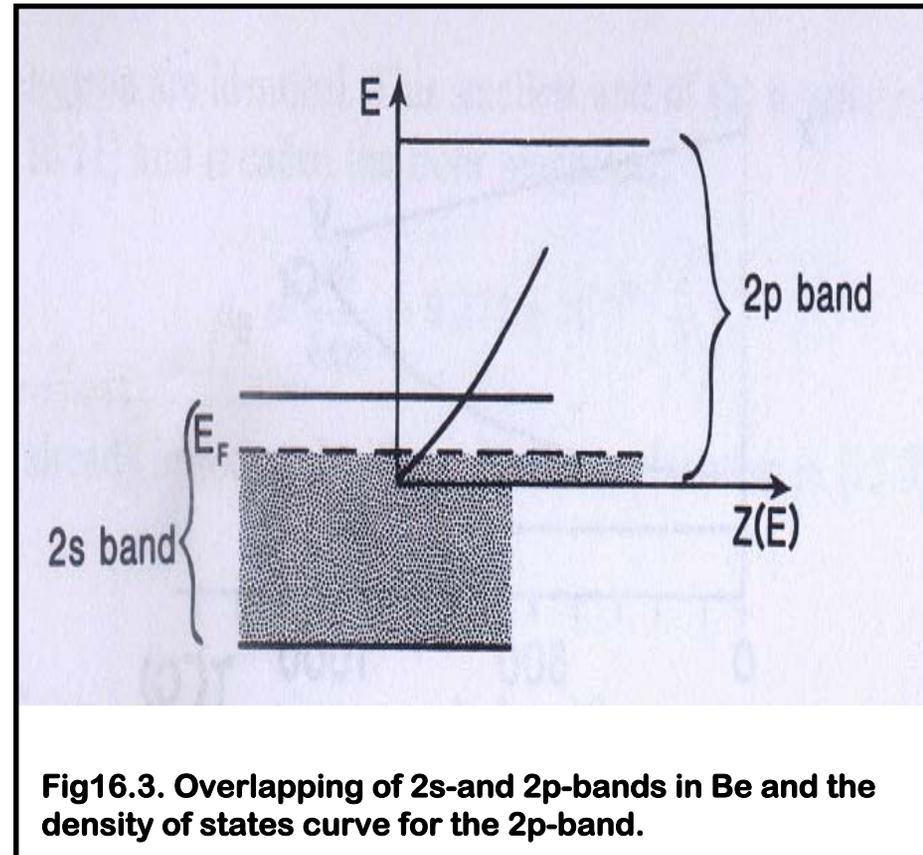

Fig16.3. Overlapping of 2s-and 2p-bands in Be and the density of states curve for the 2p-band.
- Be is a bivalent metal having a filled $2s$ -shell in its atomic state. However, in the crystalline state, band overlapping can be found, which causes some of the $2s$ -electrons to spill over into the $2p$ -band. $2s$ -electrons populate the very bottom of $2p$ band. (see Fig. 16.3)